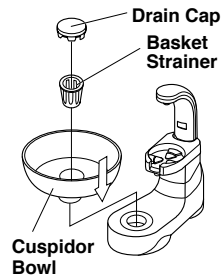

Fig.6-24 Cuspidor Bowl
(4) Cuspidor Bowl, Drain Cap and Basket Strainer (Fig.6-24)